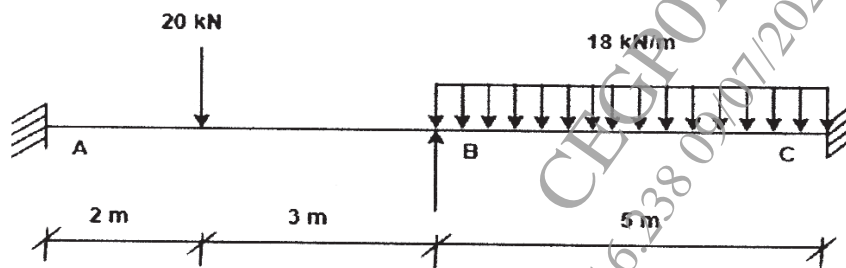

Figure 2
b) Find the rotation B (θ_B) for the beam with uniform flexural rigidity as show in figure 2. [6]